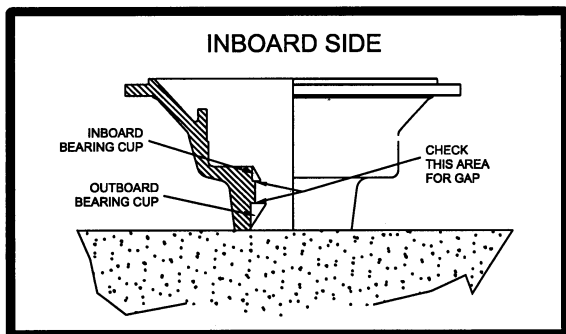

Figure 6.3.3 Installation of Inboard and Outboard Bearing Cups
3. With a 0.001" or 0.040 mm feeler gage, make sure that there is no gap between the housing and the bearing cups to insure proper cup seating (reference Figure 6.3.3).